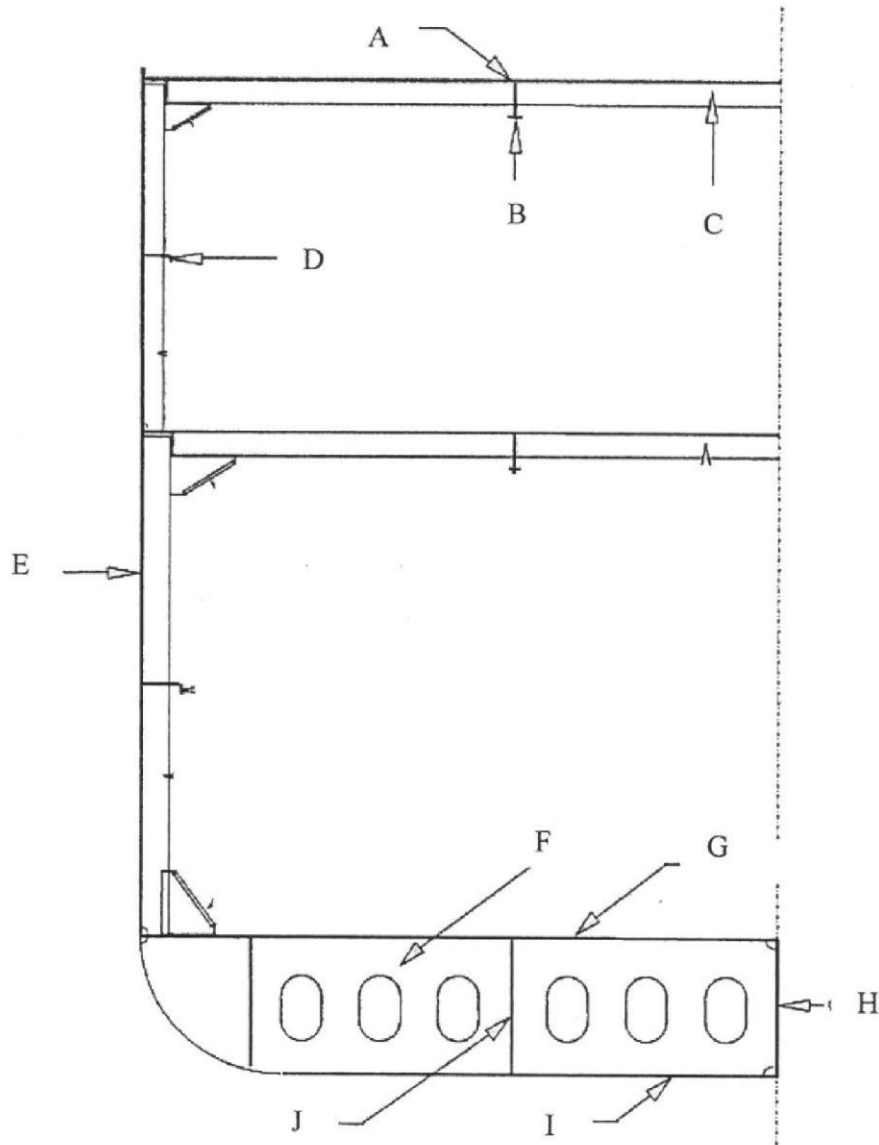

Figure 1
a) Refer to figure 1 below. List the components of ship highlighted :